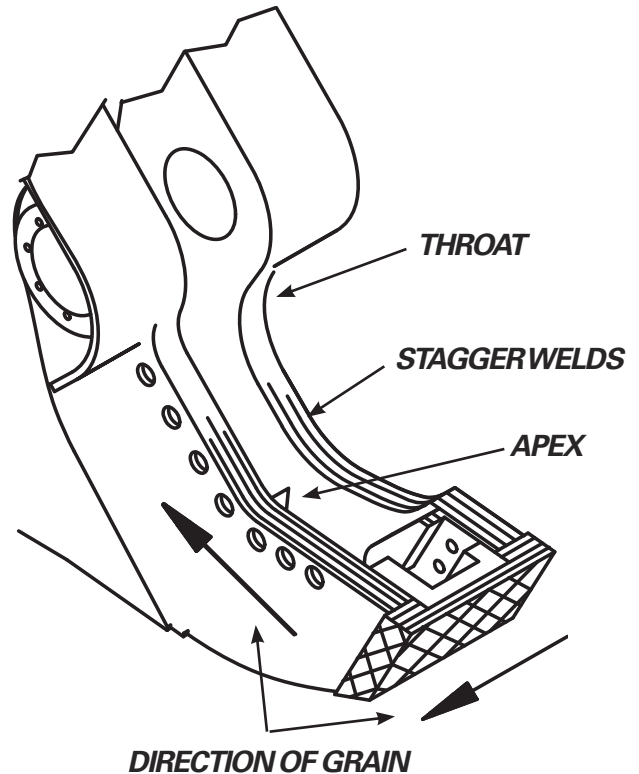

FIGURE 5-6
- 1. ALWAYS** hardsurface in the direction of the grain of the steel (see figure 5-6).